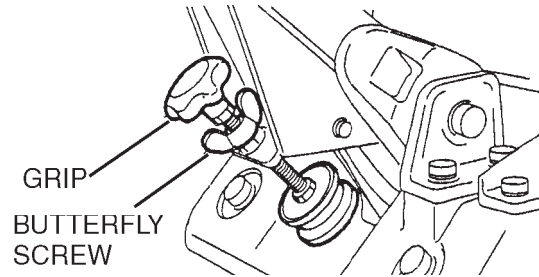

Figure 13. Handle Adjustment
1. Loosen the butterfly screw (Figure 13).